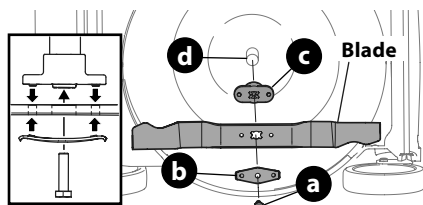

Figure 16
3. Remove bolt (a) and blade bell support (b) which hold the blade and the blade adapter to the motor shaft (Figure 16).
4. Remove blade (c) and adapter (d) from the shaft. (Figure 16).
6. Lubricate the motor shaft and the inner surface of the blade adapter with light oil. Slide the blade adapter (d) onto the motor shaft. Place the blade on the adapter such that the side of the blade marked "Bottom" (or with part number) faces the ground when the mower is in the operating position. Make sure that the blade is aligned and seated on the blade adapter flanges. See Figure 16 inset.